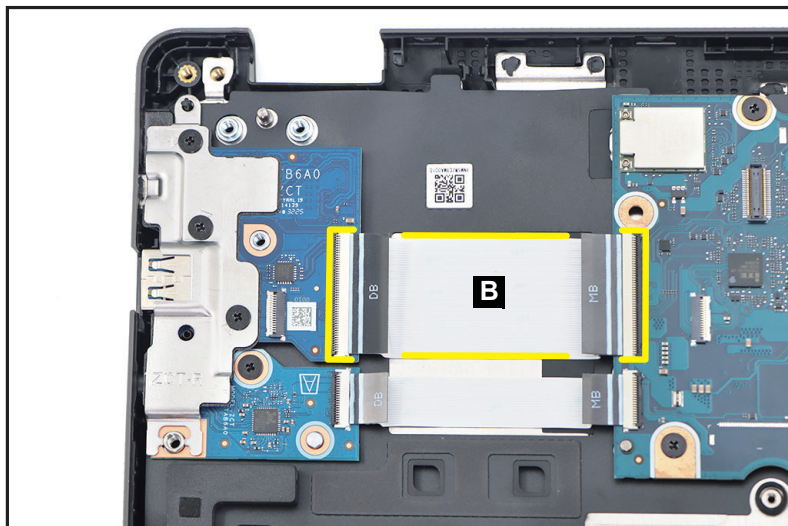

Figure 1-34. USB Board Removal
2. Disconnect the I/O board (H) FFC (B) from the USB board and mainboard connectors. Then carefully detach the I/O board (H) FFC from its underneath adhesive (highlighted with the yellow lines) (Figure 1-34). Remove the I/O board (H) FFC.